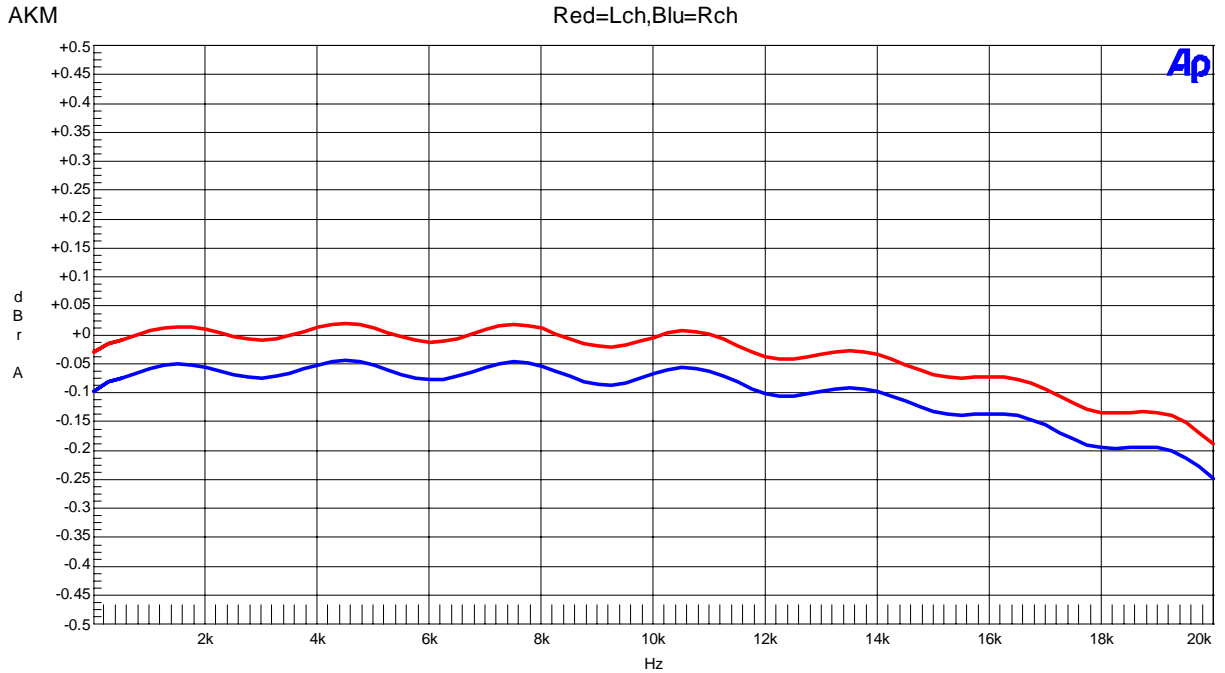

Figure 24. Frequency Response (Input Level=0dBFS)
- Figure 24. FFT (Input Frequency =1kHz, Input Level =-60dBFS)